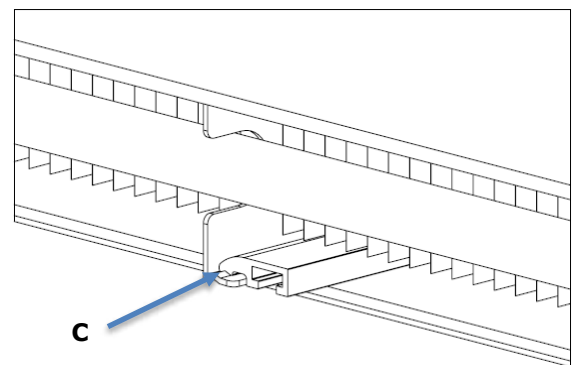

Figure 7.3-a bend the ridge upwards
1. Slide the TS clamping profile sideways (over the mounting rails) over the middle support of the panel until it clicks into the panel profile, see figure 7.3-a.